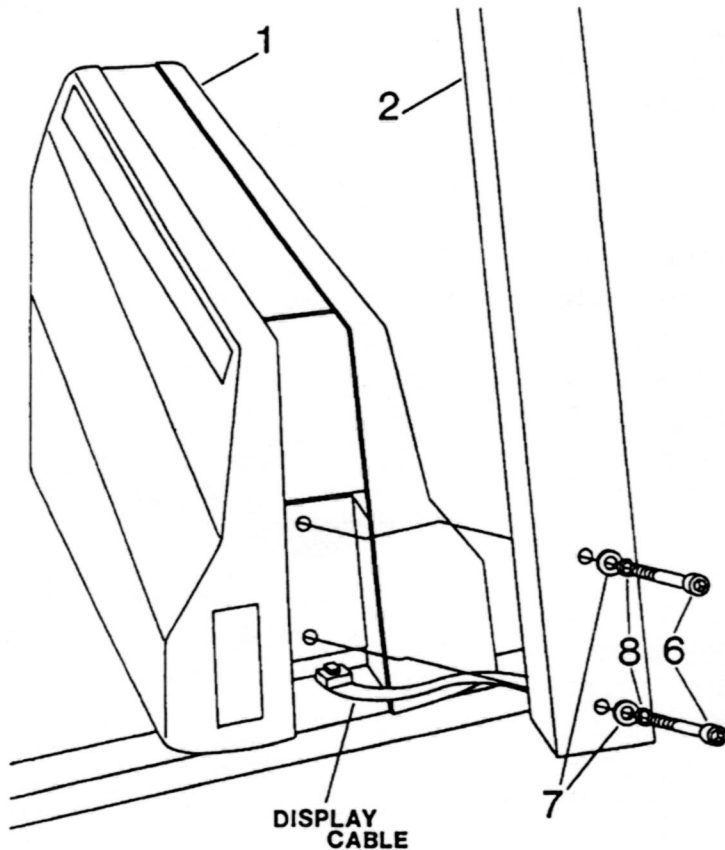

Fig. 1
Attach the hand rail upright (2) to the chassis (1) using two 5/16" screws (6), flat washers (7) and lock washers (8) as shown in Fig. 1. Make sure that the display cable goes through the slot and the display is facing toward the chassis. Finger tighten screws, wrench tighten after hand rails are installed.